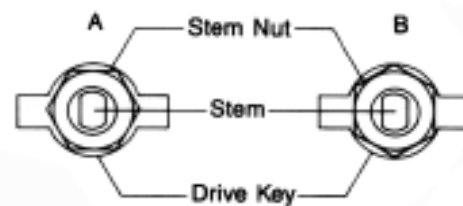

Figure 1
2. The correct orientation of the stem nut to the drive key is shown in Figure 1; this orientation is necessary to permit engagement with the twelve-point socket in the actuator pinion driver. In order to achieve the desired orientation, loosen the stem nut until the nut / drive key relationship corresponds to either 'A' or 'B' in Figure 1. This adjustment should require less than one-twelfth (1/12) turn of the nut.